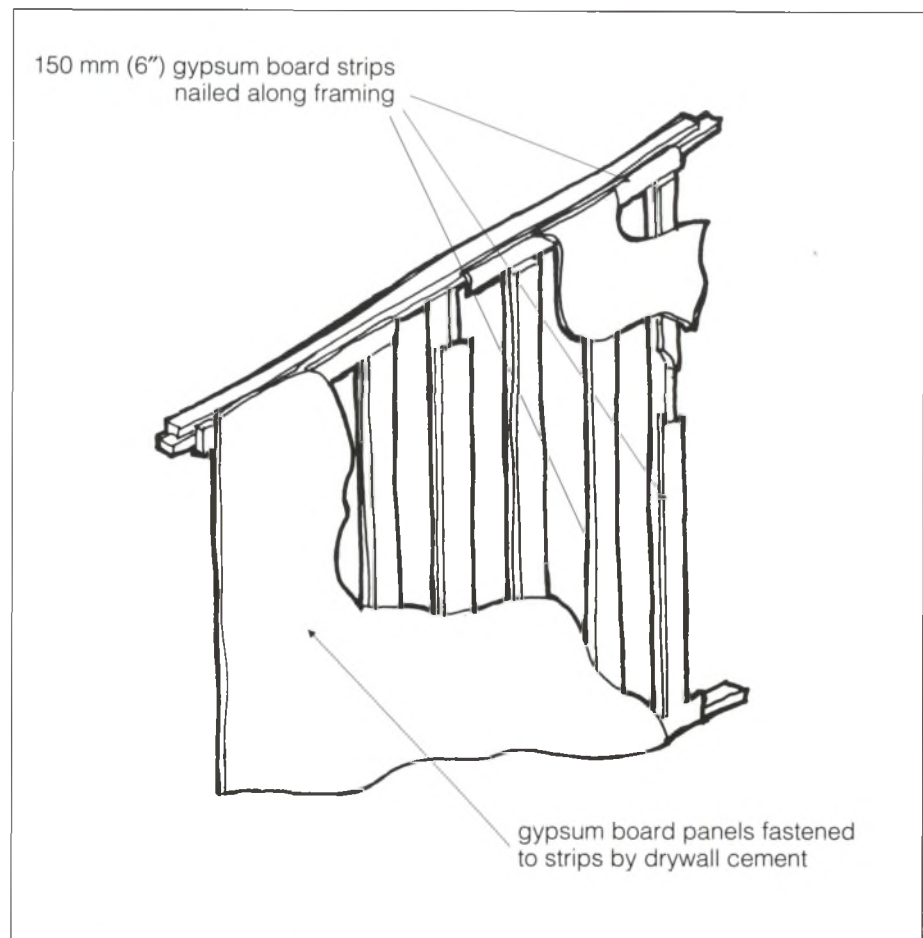

Fig. 6. Strip laminating application
- Consider using adhesives instead of mechanical fasteners. On exterior walls, apply over gypsum strips nailed to studs over the vapour barrier (fig. 6).